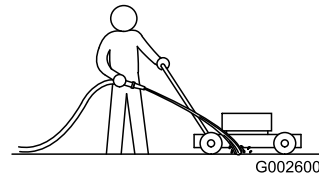

Figure 25
1. With the engine running on a flat paved surface, spray a stream of water in front of the **right** rear wheel (Figure 25).